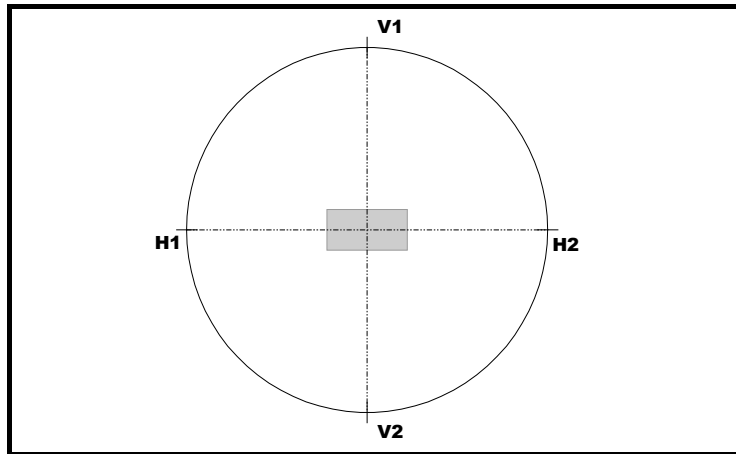

Figure 23: Final Beam after Horizontal and Vertical Alignment
5. At Site A, turn the vertical motion screws until the installer at Site B reports maximum received power. (This assures that the beam spot is now positioned at the center of the TereScope1 receiver located behind the telescope lens, as shown in *Figure 23*. The received power should be *about* the same as the expected power given in *Table 3 of Appendix F: Received Signal Power vs Distance*. *Table 3* shows expected power for various distances.) Record the maximum received power in  $\mu\text{W}$ .